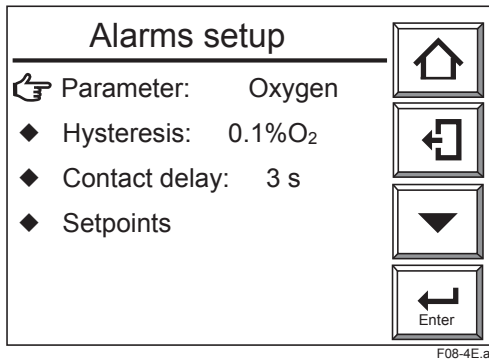
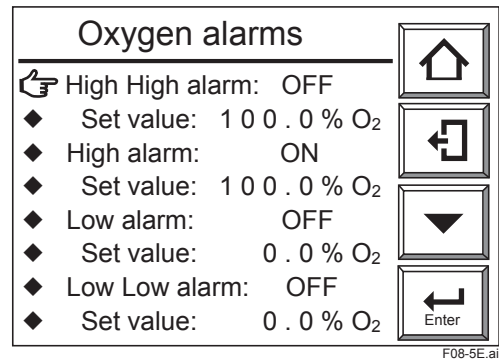

Figure 8.4 "Alarms Setup" Display
Figure 8.5 "Oxygen Alarms" Display
- (1) Press the [Setup] key in the Basic panel display to display the Execution/Setup display.
- (2) Select "Commissioning" in the Execution/Setup display. The Commissioning display then appears.
- (3) Select the "Alarms setup" in the Commissioning display. The Alarms setup display shown in Figure 8.4 then appears.
- (4) Select "Hysteresis" in the Alarms setup display. The numeric-data entry display then appears. Enter the desired hysteresis value as a percent of oxygen concentration. To set 2.5 vol%O2, enter "0025." The hysteresis setting can be in the range of 0 to 9.9 vol%O2.
- (5) Select the "Contact delay" in the Alarms setup display. The numeric-data entry display then appears. Enter the desired delay time, in seconds. To set three seconds, enter "003." The delay time setting can be in the range of 0 to 255 seconds.
- (6) Select the "Setpoints" in the Alarms setup display. The Oxygen alarms display then appears, as shown in Figure 8.5.
- (7) When you select "High alarm" in the Oxygen alarms display, the "OFF" or "ON" selection display then appears. If you select "ON," the High alarm will then be enabled (enable/disable).
- (8) To set the High alarm values select "Set value" just below the High alarm. The numeric-data entry display then appears. Enter the alarm set value (percent of oxygen concentration). If you want to set the alarm value to 10 vol%O2, enter "010."
- (9) Set the other alarm settings in the same manner as in the steps above.